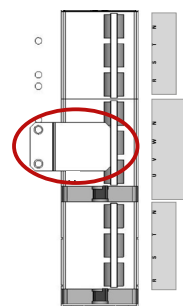
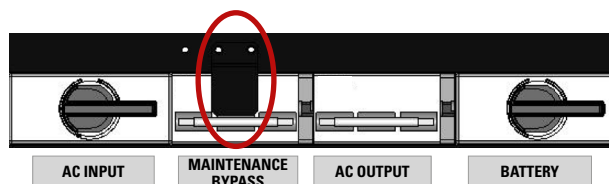

Fig. 62. Mechanical lock of the UPS maintenance bypass switch, 30 kVA and 40 kVA units.
Fig. 63. Mechanical lock of the UPS maintenance bypass switch, 50 kVA, 60 kVA and 80 kVA units.
5. Remove the mechanical lock of the UPS manual bypass switch: unscrew the screws provided and remove the metal cover (see Fig. 62 and Fig. 63).
10. Replace the mechanical lock of the UPS manual bypass switch: screw the metal cover in using the screws provided (see Fig. 62 and Fig. 63).